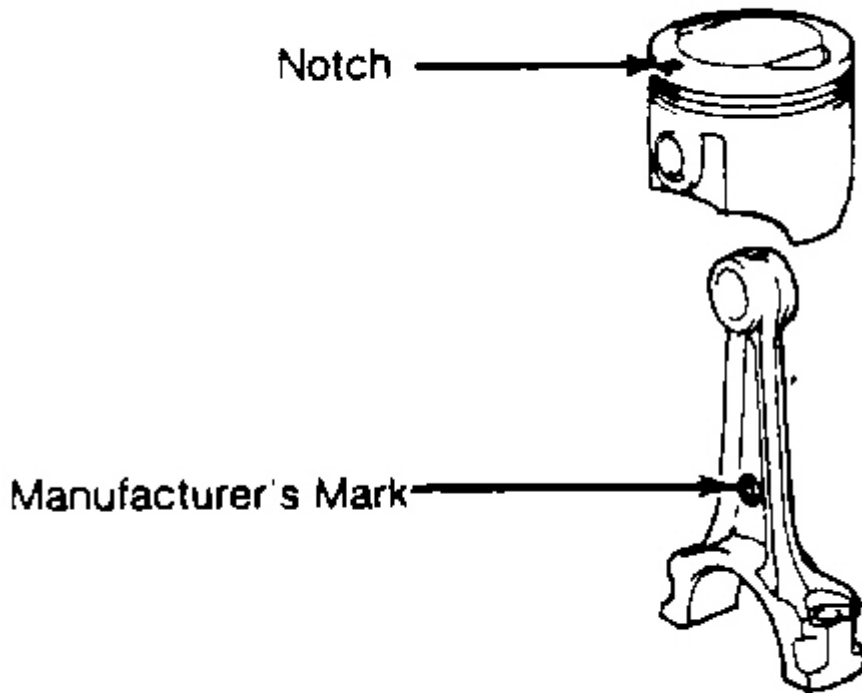

Fig. 7: Aligning Piston & Rod Assembly
5. Heat piston to 176°F (80°C), and position piston and connecting rod so manufacturer's mark on rod and indent on piston crown face same direction. See **Fig. 7** . Push pin into piston and rod assembly. Install snap rings.